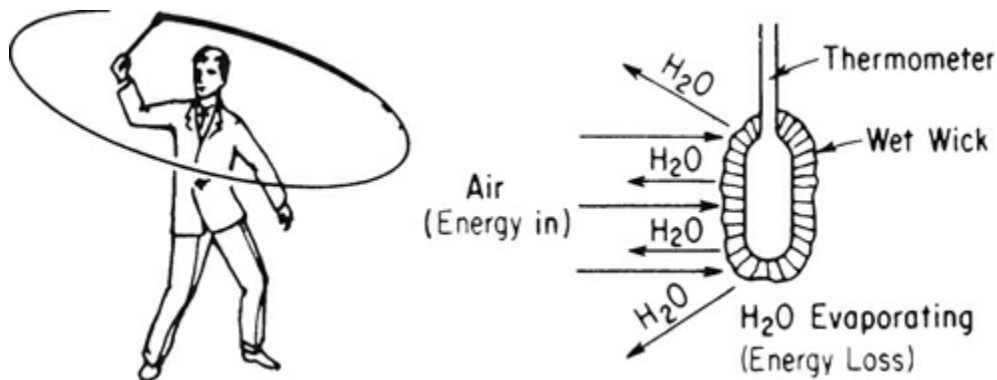

Figure 10.2 Wet-bulb temperature obtained with a sling psychrometer
d. Wet-bulb temperature (T_{WB}) is something new. Suppose that you put a wick, or porous cotton cloth, on the mercury bulb of a thermometer and wet the wick. Next you either (1) whirl the thermometer in the air, as in Figure 10.2 (this apparatus is called a *sling psychrometer* when a wet-bulb and a dry-bulb thermometer are mounted together), or (2) set up a fan to blow rapidly on the bulb at a high linear velocity. What happens to the temperature recorded by the wet-bulb thermometer?